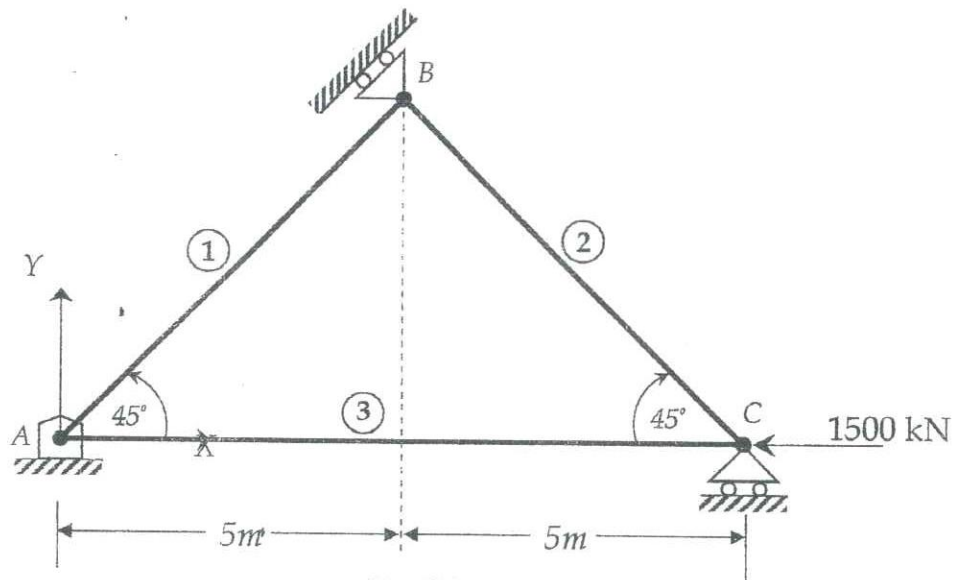

Fig. Q4
- Q4. Pin-jointed 2D truss is pinned supported at Node A and roller supported at Nodes B and C as shown in Fig. Q4. The Young's modulus  $E = 200 \text{ GPa}$  for all three elements and cross-section area  $A = 5 \times 10^{-4} \text{ m}^2$  for elements (1) and (2),  $5\sqrt{2} \times 10^{-4} \text{ m}^2$  for element (3). Truss system is subjected to a horizontal force of  $1500 \text{ kN}$  at Node C, as shown in Fig. Q4.